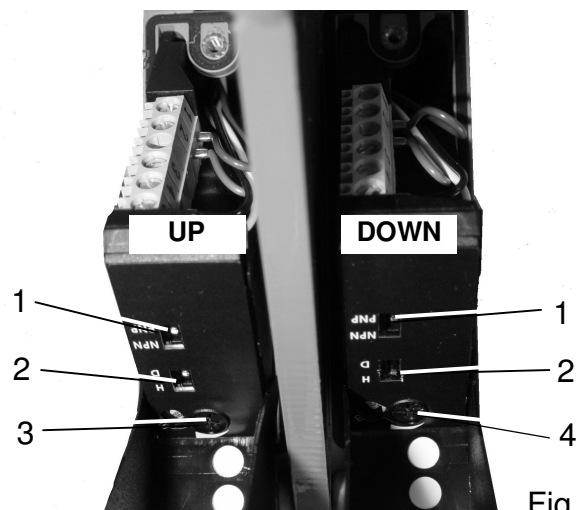

Fig 16
2. The switch (item 1, figure 16) should be set to 'PNP' on both sensors.
3. The switch (item 2, figure 16) should be set to 'D' for the 'down' sensor and 'H' for the 'up' sensor.
5. Slowly turn the 'up' sensor screw (item 3, figure 16) until its indicator light illuminates.
6. Slowly turn the 'down' sensor screw (item 4, figure 16) until its indicator light also illuminates. With both lights illuminated this becomes the 'raise' position.